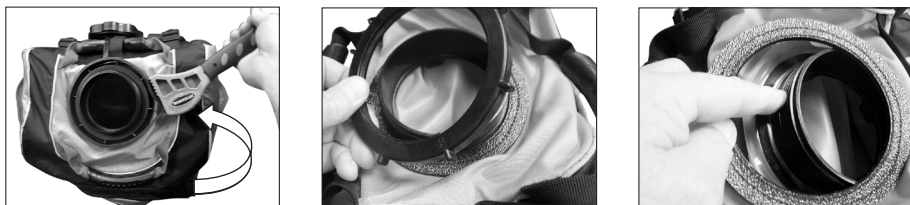

Figure 2.
2. Loosen filler neck nut by rotating counterclockwise using a rubber strap wrench as shown, remove nut and push filler neck/liner inside of backpack. (See Figure 2.)